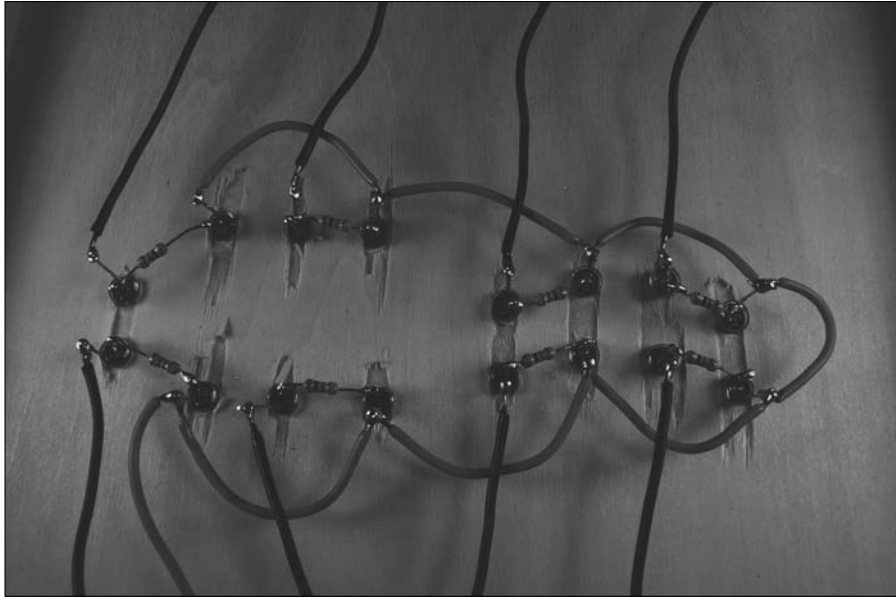

Figure 5-19:
11. **Connect and solder a 12" 20 gauge black wire to the remaining short LED lead on each pair of LEDs, as shown in Figure 5-19.**